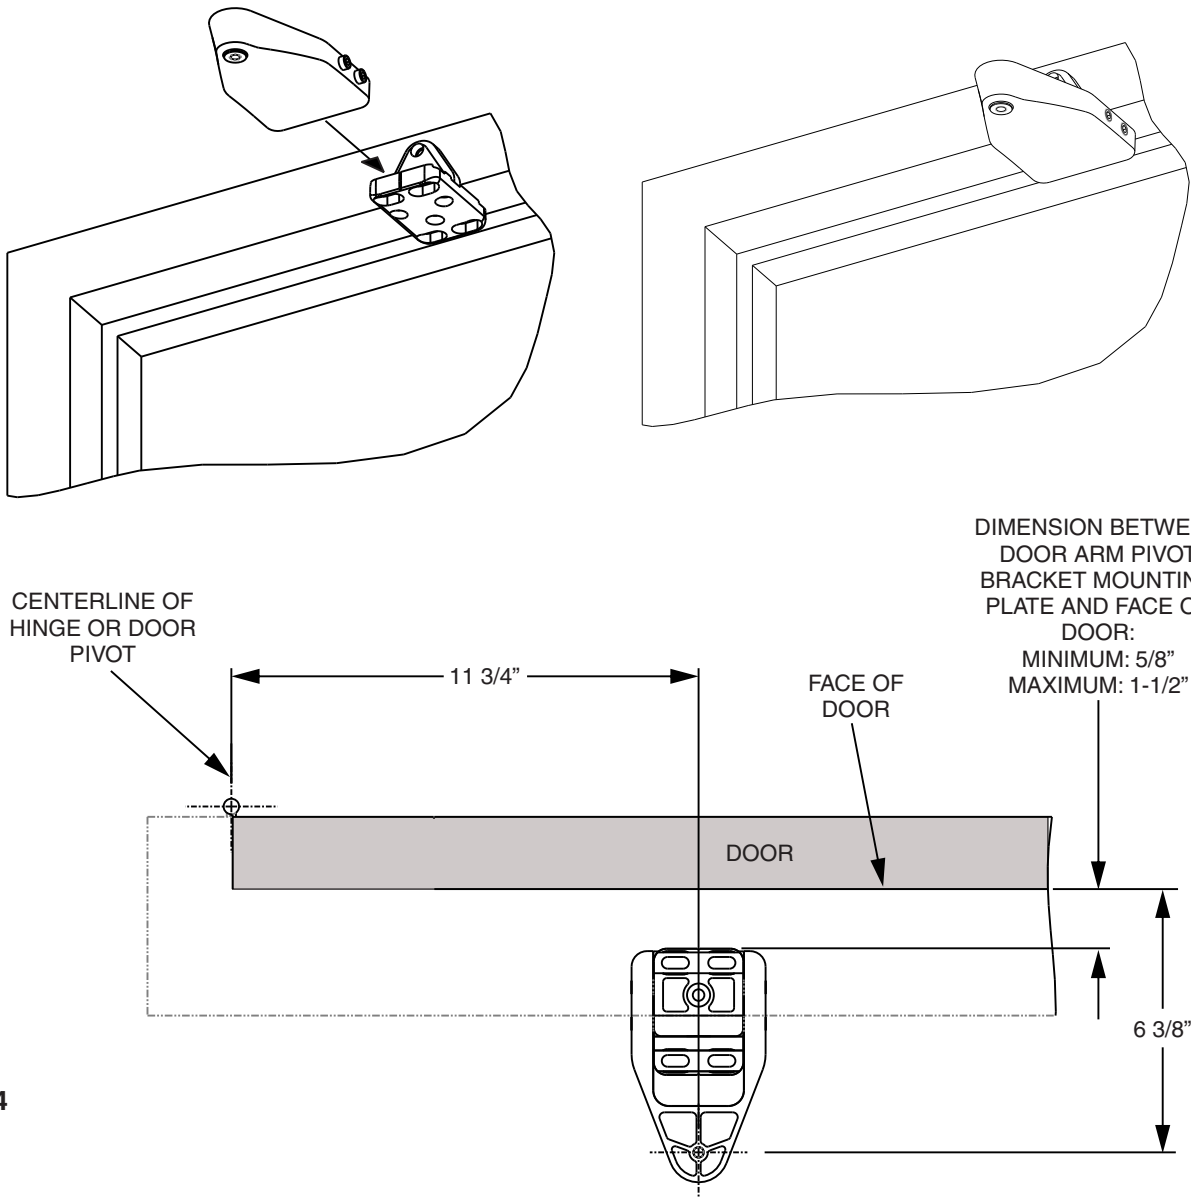

Figure 4
1. Refer to Figure 4, and SLIDE the door arm pivot over the door arm pivot bracket.